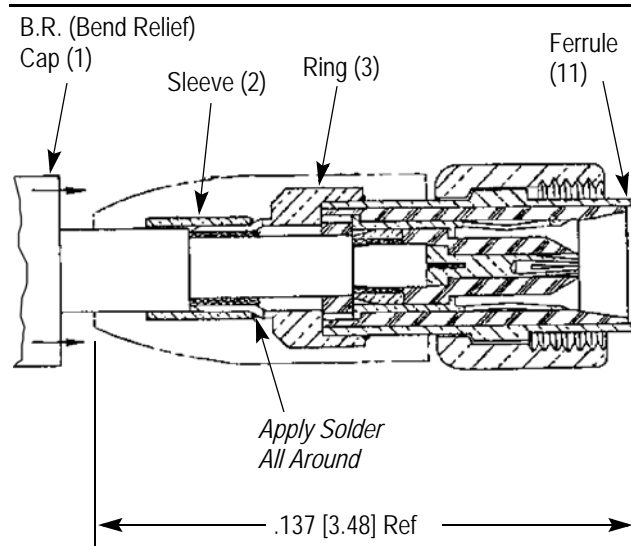

Figure 7
Slide bend relief cap (1) forward until it locks in place over ring (3). See Figure 7.